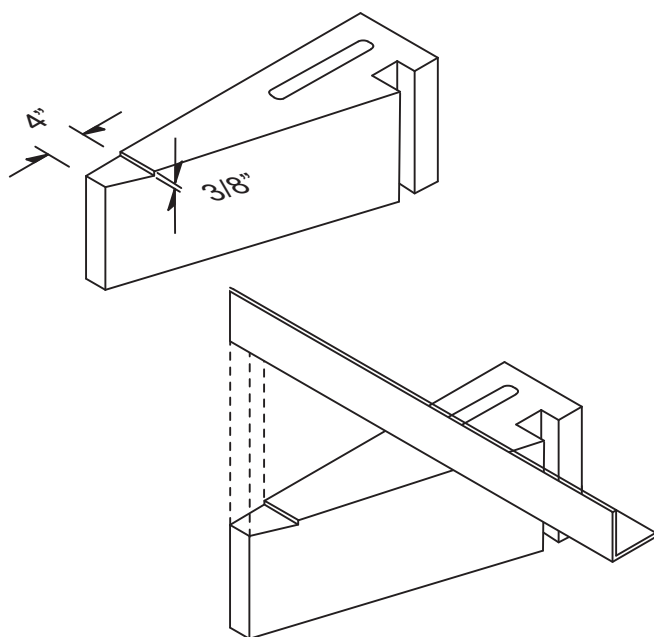

FIGURE 21
5. This steel angle sits on top of the uppermost side wall component with the four inch leg in the horizontal position. To avoid a thickness problem with the placement of the steel angle it is necessary to cut a notch in the top side wall component where the angle is to sit. This notch should be cut approximately 3/8" deep. The notch should start at the front face of the side wall component (at both the left and right hand walls) and run to a point 4" back toward the firebox. **(Figure 21)**